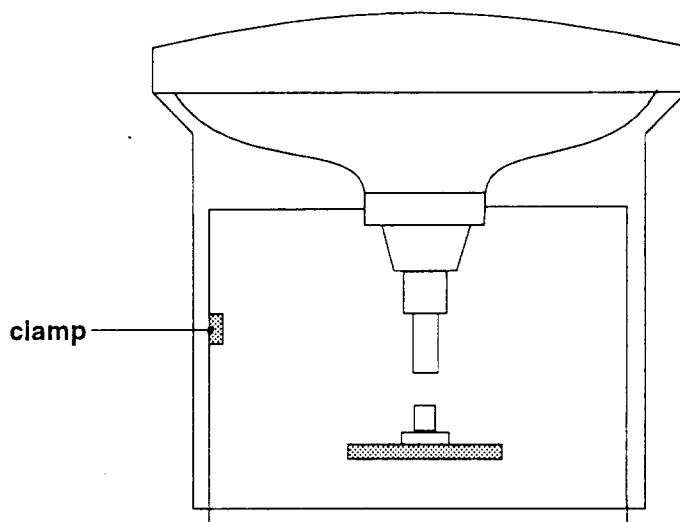

Fig. 4.1
Location of the Panels (see Fig. 4.1)
- Slide the main panel out of bottom plate, first release plastic clamp, see **Fig. 4.1**.